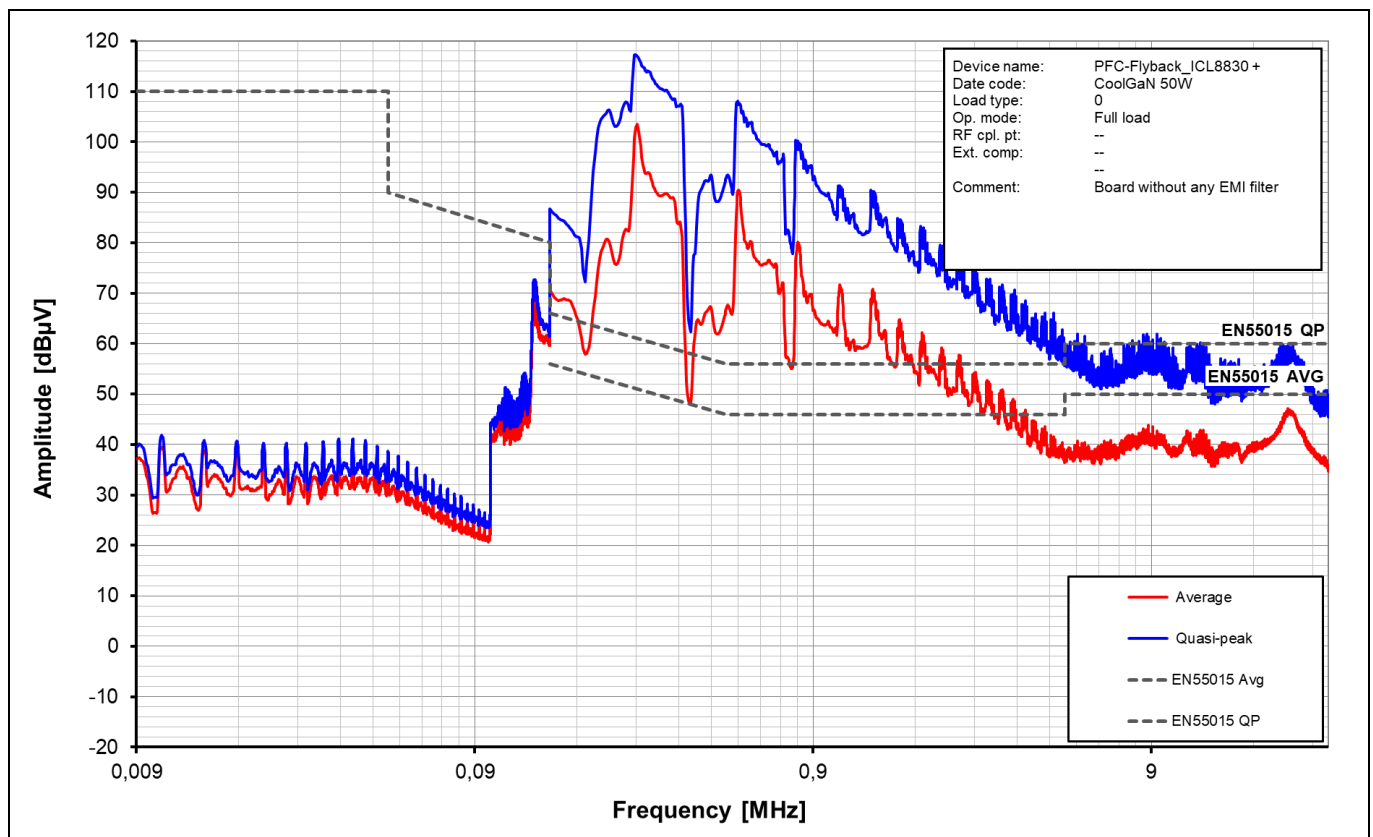

Figure 6 EMC measurement before the EMI filter
- Conducted emissions (EMC) are measured before the EMI filter, as shown in Figure 6, to define the spectrum